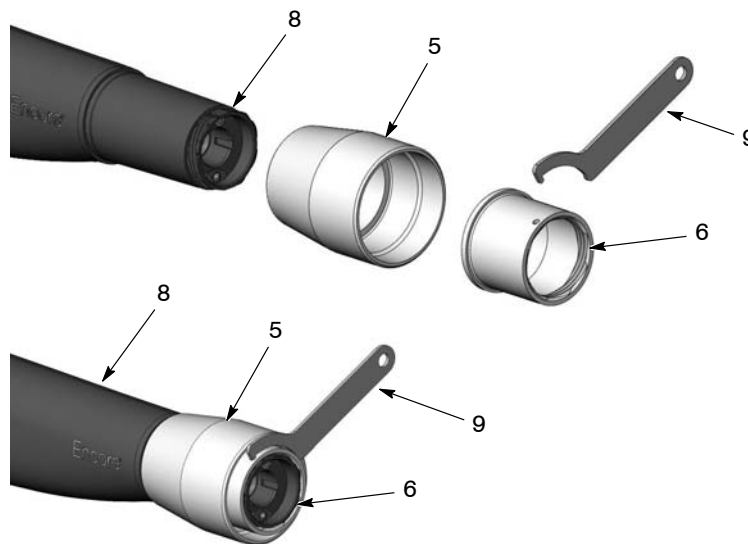

Figure 5 Installing the Body and Retainer Nuts onto the Spray Gun
4. See Figure 5. Slide the body nut (5) over the end of the spray gun (8). Thread the retainer nut (6) onto the front of the spray gun, using the spanner wrench (9) included with the extension. With the retainer nut installed, the body nut should spin freely when rotated.
4. Unless the body nut or retainer nut need to be replaced, you can leave them attached to the spray gun. If they must be replaced, remove the retainer nut from the spray gun with the spanner wrench as shown in Figure 5.